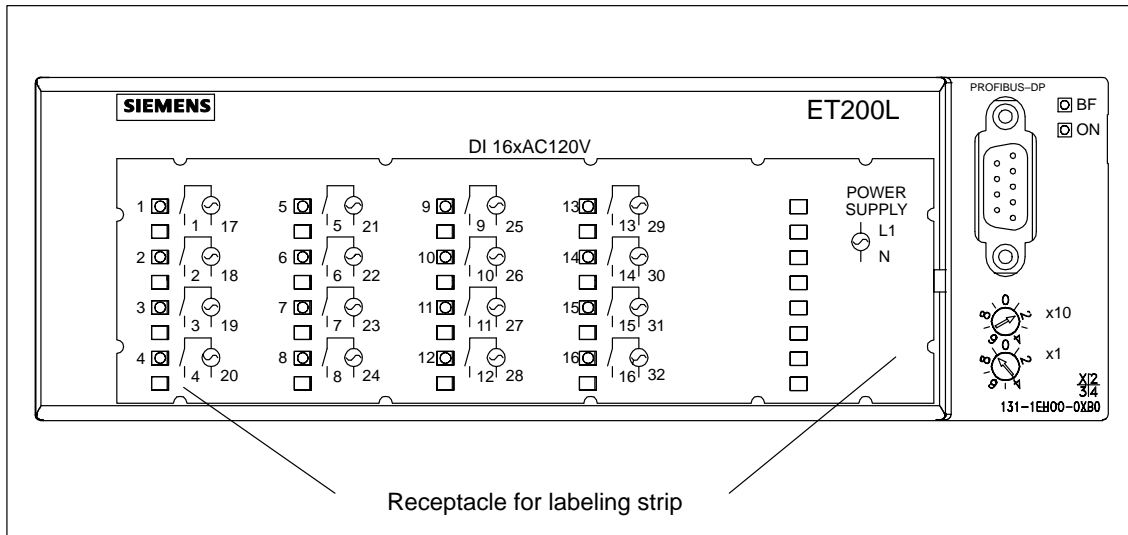

Figure 8-11 View of the L 16 DI AC 120 V Electronics Block
**View** Figure 8-11 shows a view of the L 16 DI AC 120V electronics block.